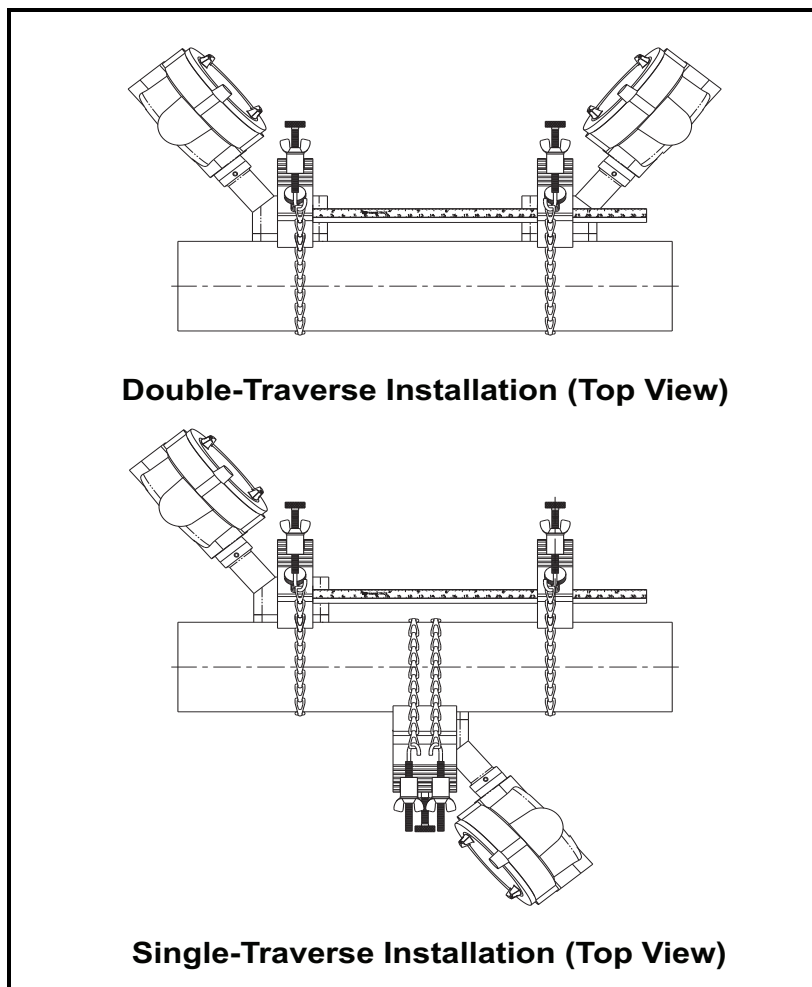

Figure 7: Completed UCF Installations with Transducers
- See typical completed **UCF** installations in Figure 7.